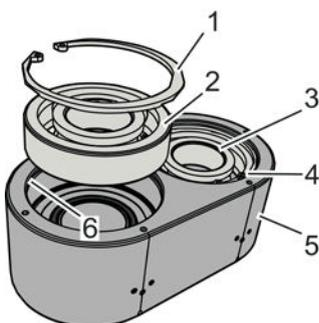

Fig. 120: Mounting the bearing
2. → Press the bearing (Fig. 120/2, 3) into the bearing housing (Fig. 120/5) up to the stop.
3. → Insert the inner retaining rings (Fig. 120/1, 4) into the grooves (Fig. 120/6) of the bearing housing (Fig. 120/5).